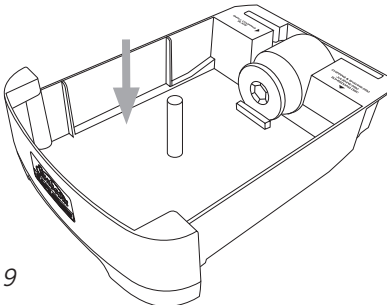

Fig 9
2. Place the small universal 's' blade at the rear of the drawer as indicated in figure 9.